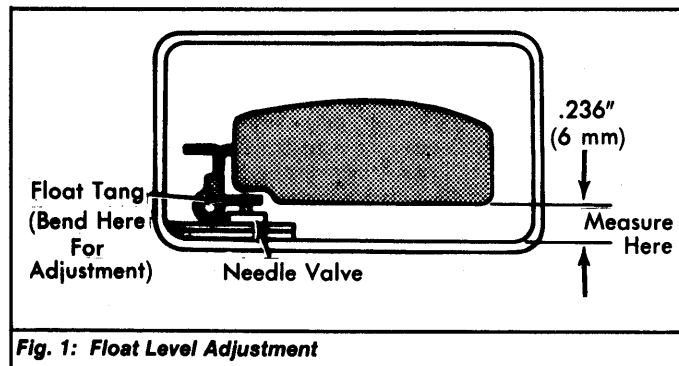

Fig. 1: Float Level Adjustment
2) Allow float to lower by its own weight. Measure clearance between float and edge of bowl. If clearance is not .236" (6 mm), bend float tang to achieve proper clearance. See Fig. 1.